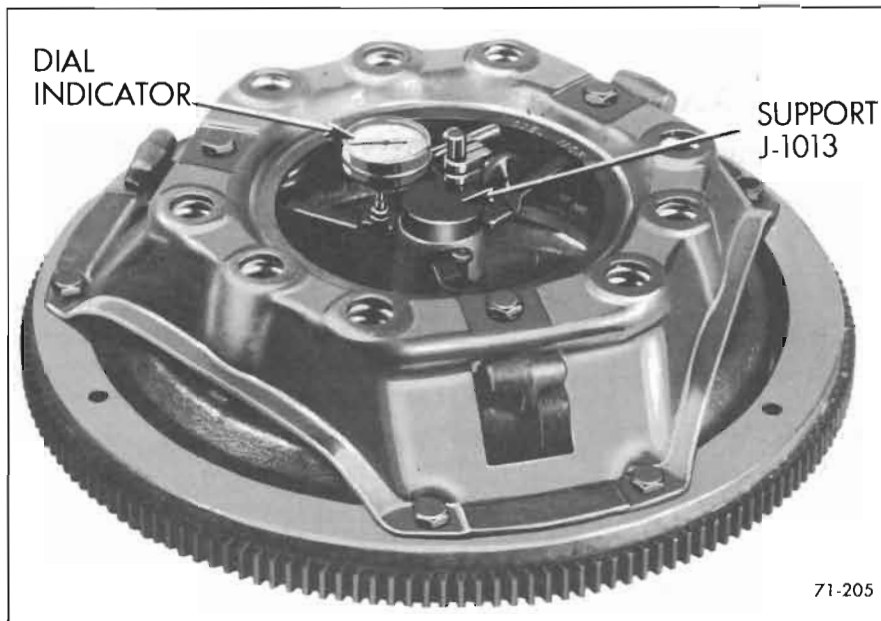

Figure 71-205—Checking Release Lever Height
1. Mount clutch assembly for checking by placing Adjusting Gauge J-1036 on a spare flywheel and then placing clutch assembly over gauge so that release levers are directly above machined bosses of gauge. See Figure 71-205.
3. Zero dial indicator by mounting dial indicator on Support J-1013. See Figure 71-205. Then set support on flat surface, press indicator down against surface until indicator hand turns approximately one revolution, and tighten indicator to support. Now set indicator face to zero.